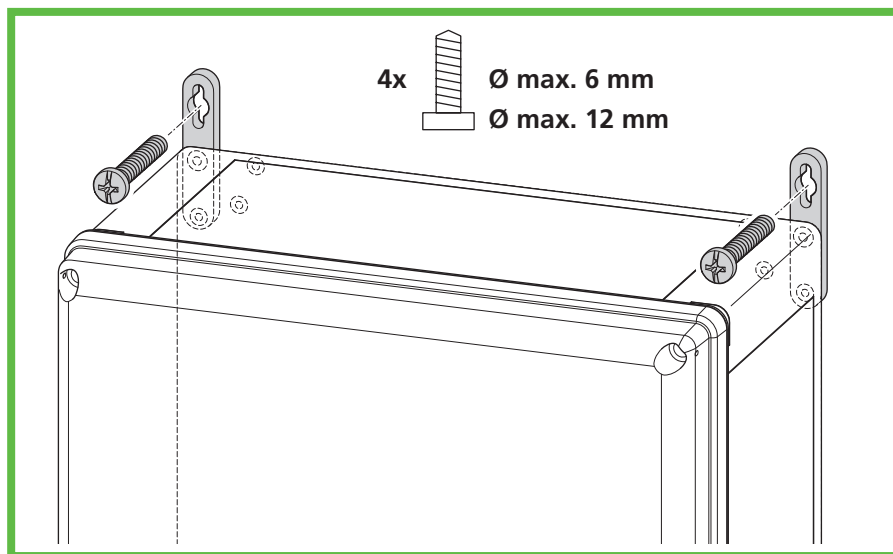

Figure 12: Wall assembly
- ▶ Screw the charging station tight by screwing one screw each through the boreholes in the external fixing brackets (Abb. 12).